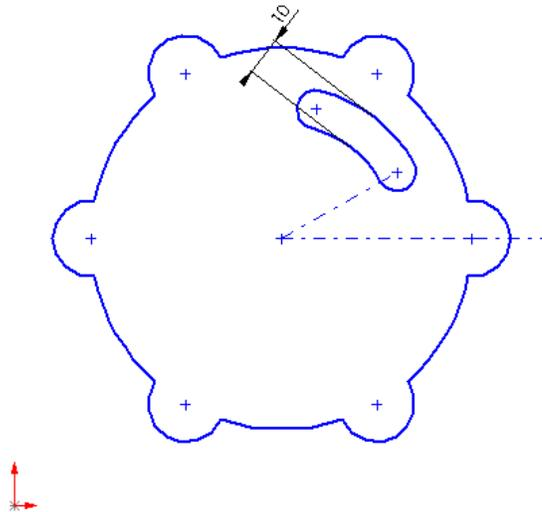

Figure 2-41 The sketch of the outer loop and the inner cavity
19. Trim the unwanted portion of the inner cavity using the **Trim** tool. The sketch after completing the inner cavity is shown in Figure 2-41.